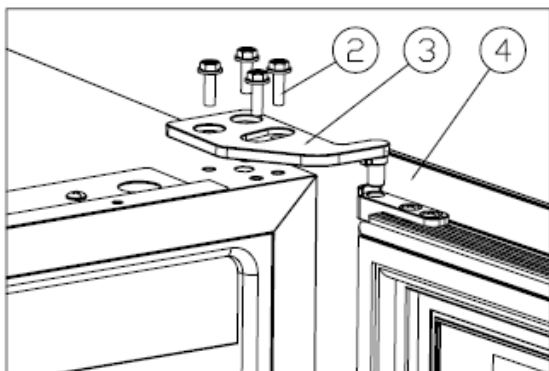

Figure 1
Unscrew the M5\*16screws (2), dismantle the right upper hinge (3), and remove the door.[Figure 1].